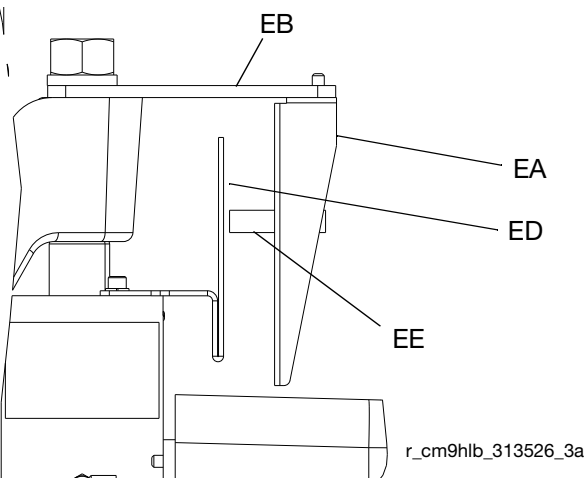

FIG. 11
- c. For S20 supply systems: Attach the actuator (ED) to the ram cylinder endcap, so the sensor (EE) passes in front of the bracket (ED) at the correct level for drum low or drum empty. See FIG. 11.